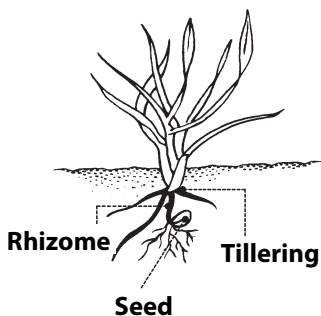

Fig. 3.2
**Deeper Planting: from 5 to 6 cm (Fig. 3.2)**